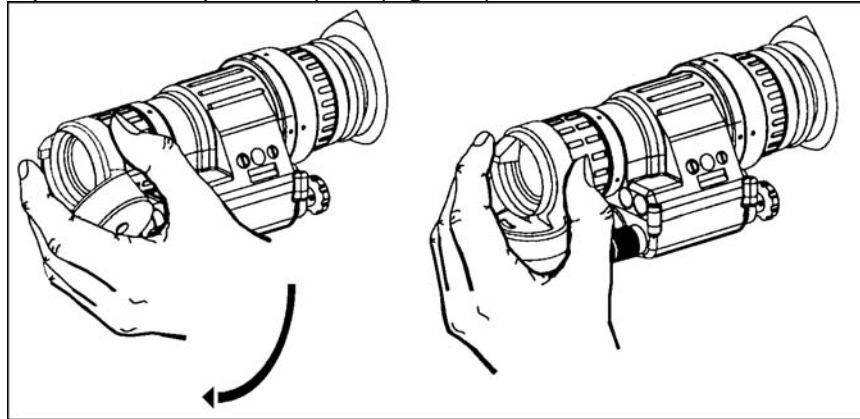

Figure 9. Installation of the snap-on compass.
- (1) Place the protective mask on your head IAW instructions provided with the protective mask.
- (2) Do not break the seal of the protective mask around your face when installing the headmount assembly over the protective mask.
- 7. Install and operate the snap-on compass (Figure 9).